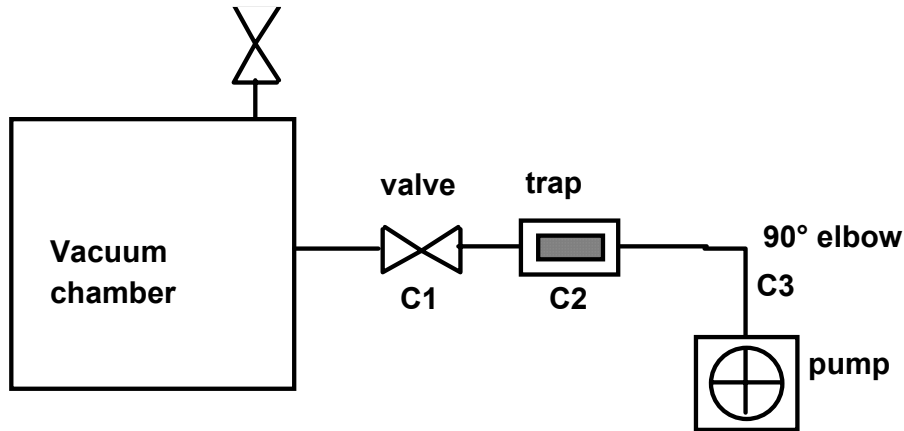

Figure 3.9 Conductance elements connected in Series
3.10 For the vacuum system shown in figure 3.9, if $C_1 = 50$ L/s, $C_2 = 100$ L/s and $C_3 = 100$ L/s what is the total conductance of the three elements?